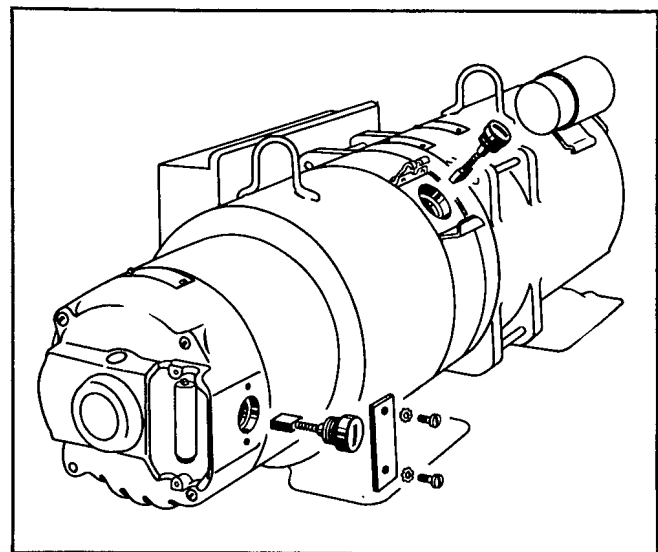

Figure 6-3. Replacing Brushes in Servo Generator
b. The brushes on the exciter and d-c generator of the Servo Generator should be serviced in the same way described for the slewing motor. The exciter brushes are held in place by slotted caps on the brush holders similar to the brush holders on the slewing motor. See Fig. 6-3. Retaining straps are placed over the caps to keep vibration from working them loose. These straps are held in place with two screws. To remove the brushes, remove one of the screws holding the strap and loosen the other. Swing the strap away from over the brush cap and replace the strap screw in the hole in the housing so that it will not be misplaced. Use a screwdriver to remove the brush cap and then lift out the brush. The brushes on the d-c generator are accessible when the brush cover is removed from the housing. This cover is located adjacent to the grease cup. To remove the cover, take out the screws and rotate the cover until the open ends are